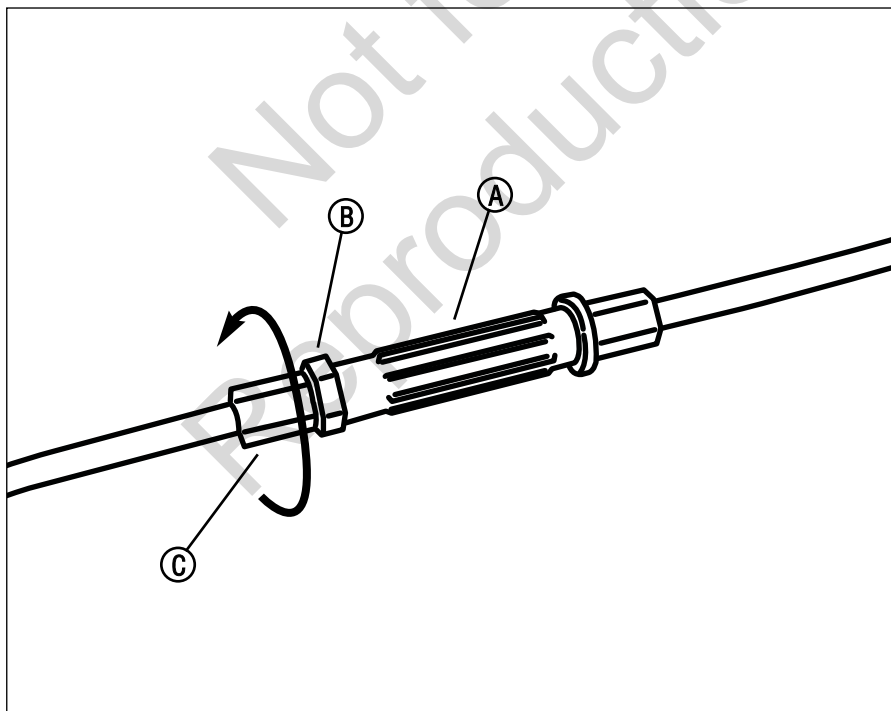

Figure 17: Adjusting the drive cable
1. If the drive system is slipping, loosen the jam nut (B, **Figure 17**) on the adjustment turnbuckle (A), and rotate the ferrule (C) one-half turn in the direction shown. Test the drive system and check for slippage.